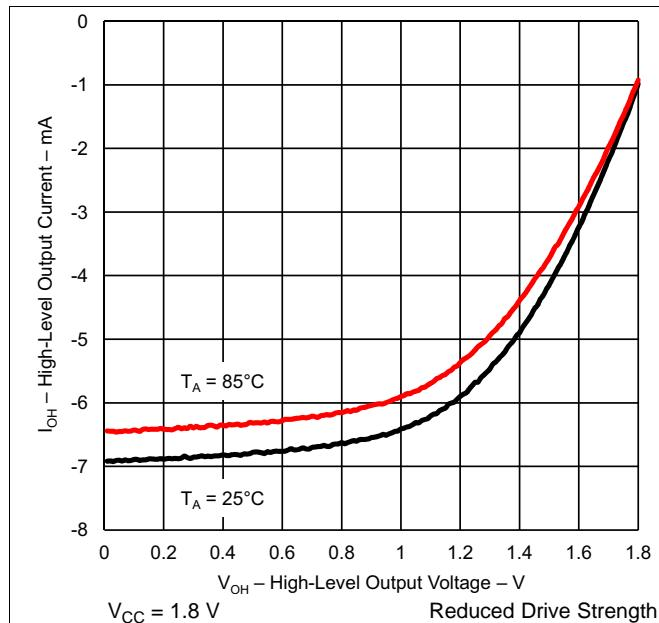
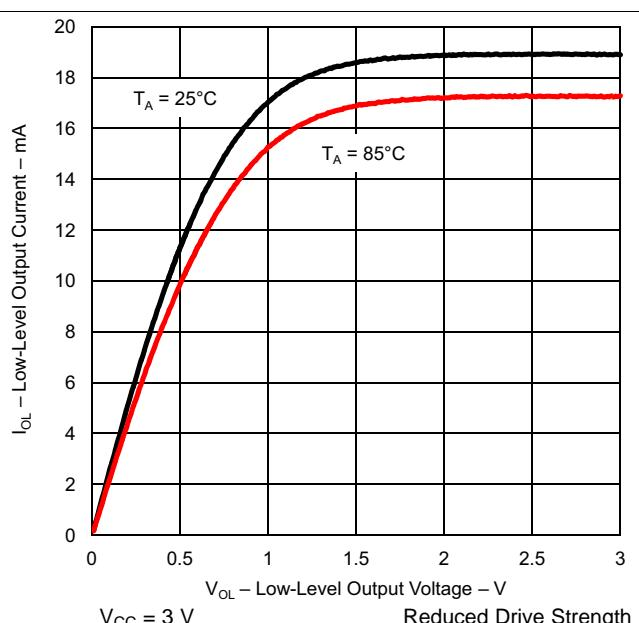

Figure 5-7. High-Level Output Current vs High-Level Output Voltage
Figure 5-10. Low-Level Output Current vs Low-Level Output Voltage
**Table 5-10** lists the output characteristics of the GPIOs in reduced drive strength mode. Also see Figure 5-7 through Figure 5-10.